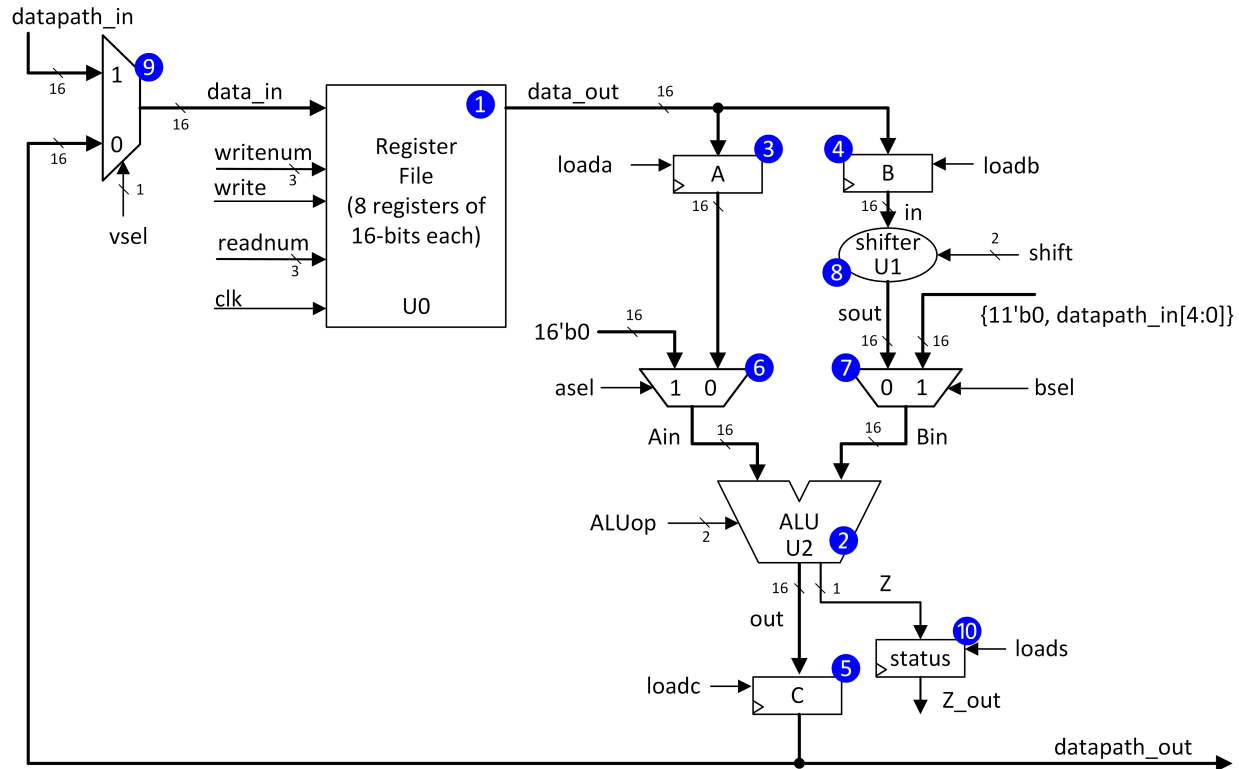
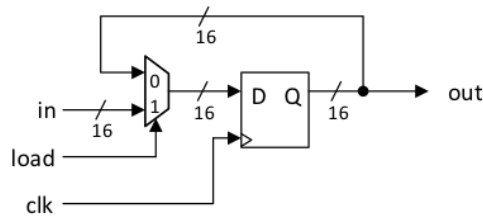
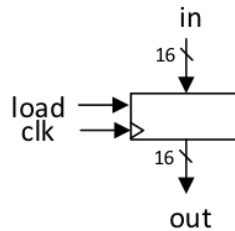

Figure 1: “Simple RISC Machine” Datapath
Figure 2: Register with Load Enable Circuit
Figure 3: Register with Load Enable Symbol (Note: this symbol is used in both Figure 1 and 4)
To execute the instructions above along with some others described later, in Lab 5, you implement the computer *datapath* shown in Figure 1. This section explains the different elements in Figure 1. While reading this section try to focus on understanding what each individual block does. In Section 2 we will see an example showing how the blocks work together.
To compute with the variables g, h, i, j, t1, and t2, our computer needs a way to “remember” their values. To remember their values, the Simple RISC Machine employs the hardware structure known as a *register file* ①, shown in Figure 1.
The register file for the Simple RISC Machine is a memory that has eight locations numbered 0 through 7, each of which can hold a 16-bit number. Notice that to specify one of the eight locations requires only $\log_2(8) = 3$ -bits, even though each location can hold 16-bits. The eight different locations are more commonly referred to as R0, R1, ..., R7, where the R stands for “register”. Thus, the entire register file can store $8 \times 16 = 128$ bits of information. An *individual* 16-bit register inside the register file is built using what is sometimes referred to as a *register with load enable*. A register with load enable can be implemented with the circuit shown in Figure 2, which you should know how to build based upon the material you will have seen in lecture by the time we reach the end of Slide Set 5 in lecture on Tuesday Oct 3.
In Figure 2, when load is 0, out is passed through the top input of the multiplexer into the D input of the set of 16 flip-flops, which together form a 16-bit register. Thus, when load is 0 and there is a rising edge of the clock, the value in the 16-bit register does *not* change. Conversely, when load is 1 the value of out is updated to the value on in on the rising edge of the clock. In Figure 1 a 16-bit register with load enable is represented using the symbol shown in Figure 3.